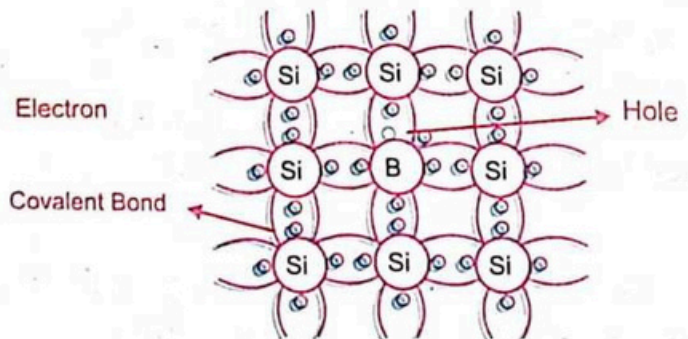

Fig.17.6 Doping of Silicon Si atoms with Boron B, their covalent bonds have one free hole.
When an impurity of trivalent element (valency 3) like boron (B), gallium (Ga), Indium (In) etc. is added to a pure semiconductor (germanium, silicon) in a specific ratio then such doped semiconductor is called P-type semiconductor. To explain the formation of P-type semiconductor, consider a trivalent impurity like boron (B) which is added to a pure silicon. Boron has three valence electrons in its outermost shell while silicon has four electrons. Therefore, the three valence electrons of boron form covalent bonds with four neighbouring silicon atoms, this leaves one of the four silicon atoms with an unsatisfied bond i.e., leaves a vacancy called holes as shown in Fig.17.6. Since one added atom of boron provides one hole, so, a small amount of boron added to pure semiconductor provides a number of holes. These hole act as